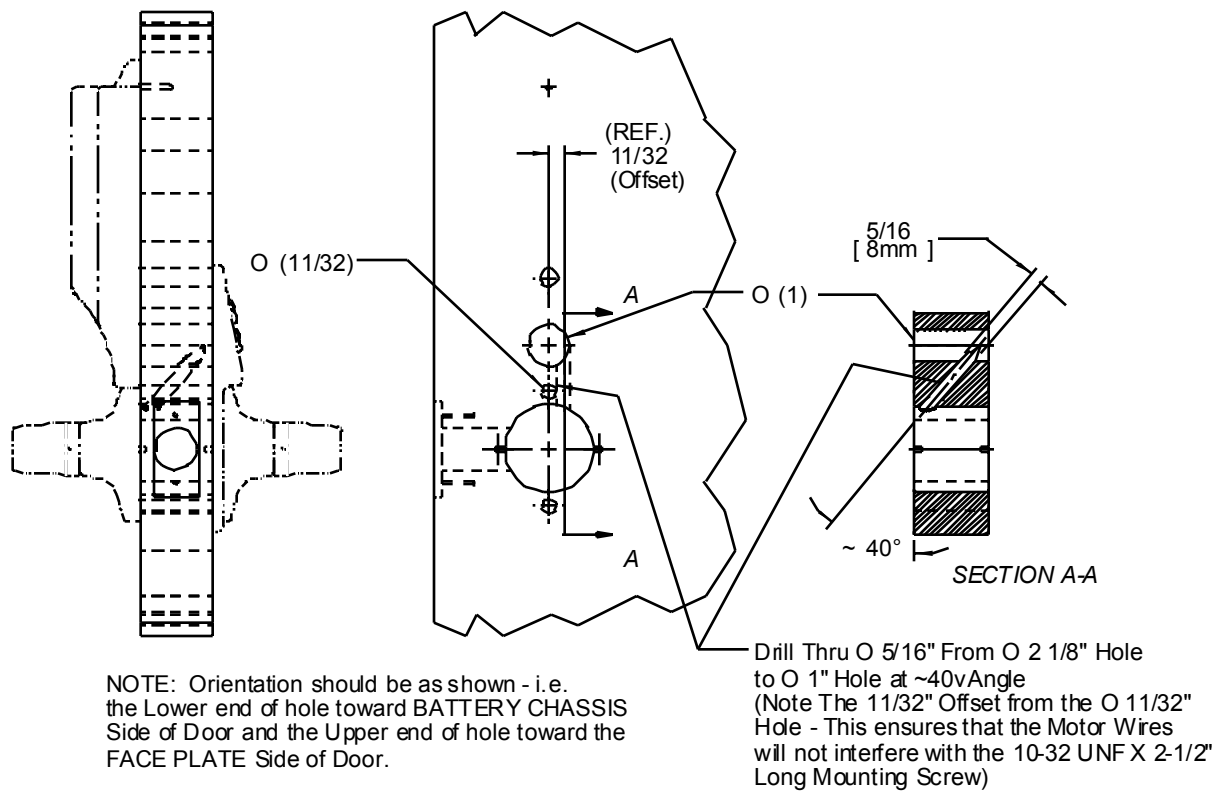

Figure 4
8. Retrieve the wire connector from the inside (battery side) of the door and feed the connector back up and through the 5/16" diameter (diagonal) hole and into the 1" diameter hole above (see hole configuration – **Figure 4**).